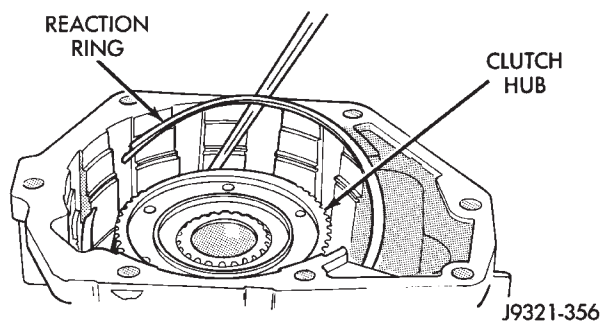

Fig. 306 Overdrive Clutch Reaction Ring Installation
- (1) Install overdrive clutch reaction ring first. Reaction ring is flat with notched ends (Fig. 306).